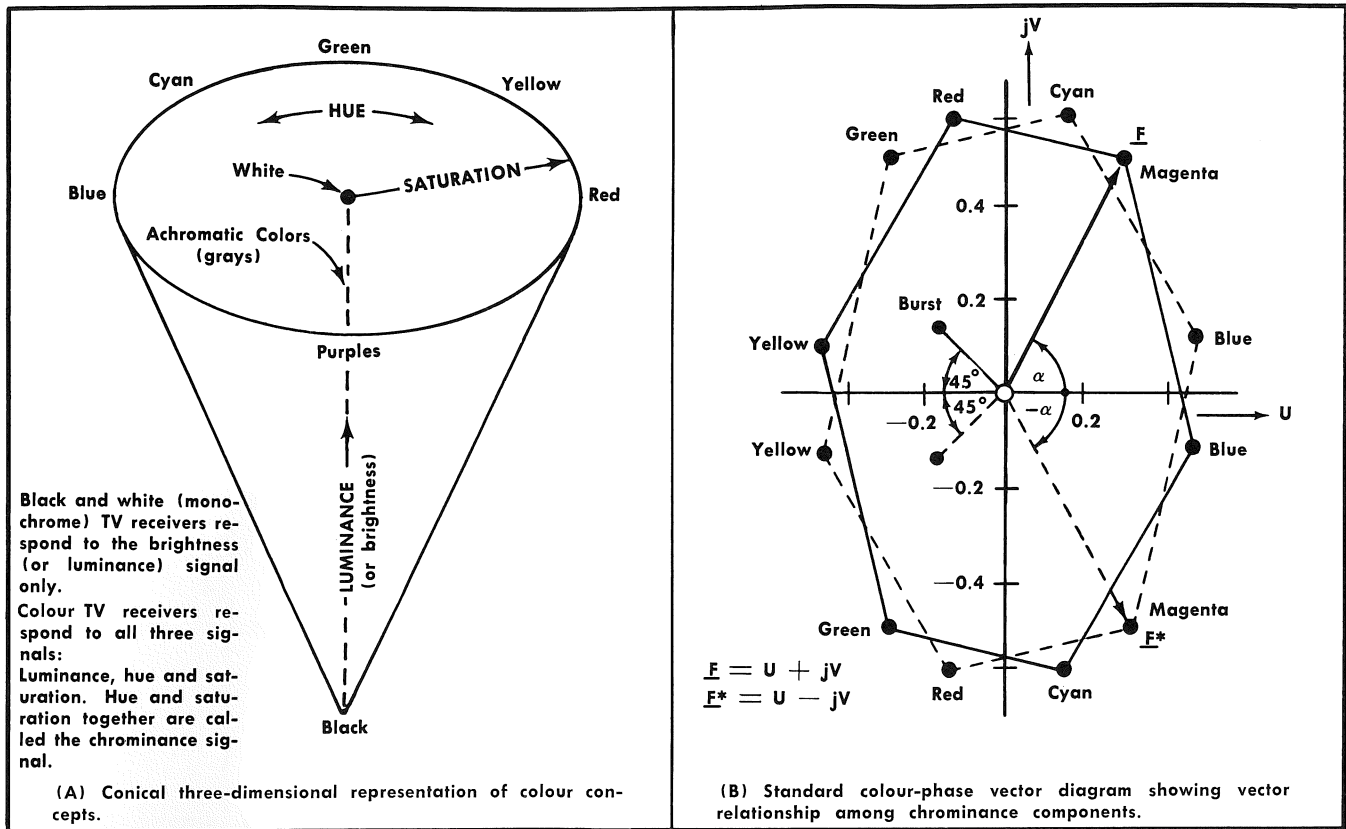

Fig. 2-3. Illustrations showing the relationship between the basic colour concepts and the standard colour-phase vector diagram.
Chrominance consists of two additional quantities; hue and saturation. Hue is the attribute of colour perception that determines whether the colour is red, blue, green, or other. White, black and gray are not considered hues. In colour TV systems, the hue is encoded as a phase angle of the signal with respect to a reference frequency (burst signal). See Fig. 2-3 (B).
Saturation is the degree to which a colour (or hue) is diluted by white light in order to distinguish between vivid and weak shades of the same hue. For example, vivid red is highly saturated and pink or pastel red has little saturation. One-hundred percent saturation represents full hue with no white dilution. In a vector display, saturation is indicated by the length of the vector. See Fig. 2-3 (A).